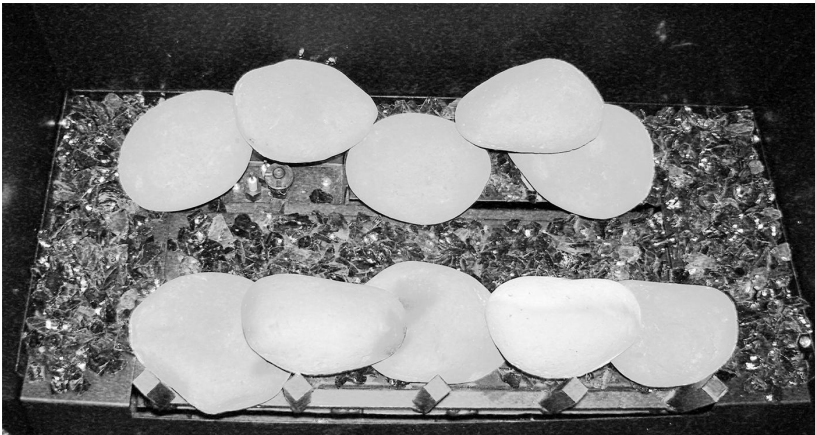

Figure 40 - Placing stones #9 and #10.
- Place stones (#9 and #10) on top of the front stones as shown on the picture below See Figure 40.